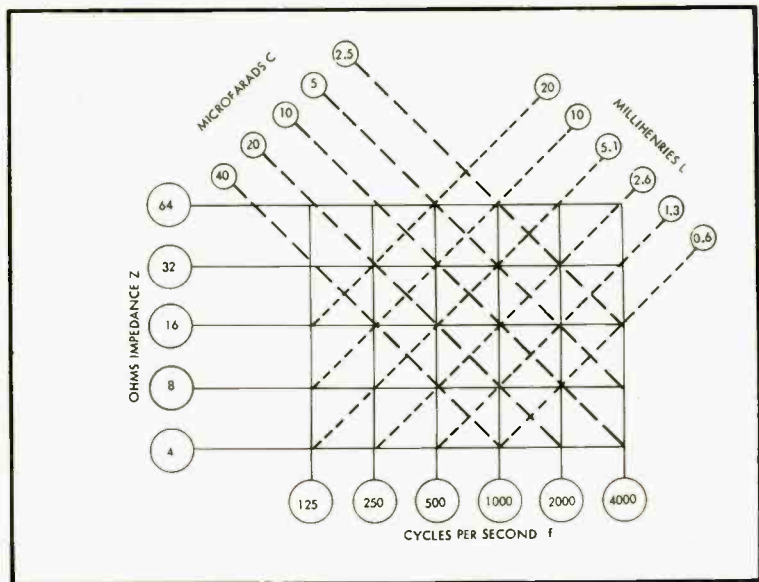

Fig. 1. Chart for determination of L and C for crossover networks when impedance L and frequency of crossover f are known.
Fig. 2 (left). Two-way crossovers with a slope of 6 db per octave. $X_c = X_L = Z_w = Z_T$ at crossover frequency. C_1 and L_1 are found from Fig. 1. Fig. 3 (right). Two-way crossovers with a slope of 12 db per octave. Find C and L from Fig. 1. $C_2 = 1.41 C$; $L_2 = 0.71 L$; $C_3 = 0.71 C$; $L_3 = 1.41 L$.
and C in farads. Aside from the fact that we are interested in millihenries, mh, (thousandths of a henry) and microfarads, μf , (millionths of a farad) the factor 2π is unhandy to work with. Hence these equations are put in more convenient form in Fig. 1. The scale on the left is ohms impedance Z ; across the bottom is the frequency of f cps. The capacitor lines C are dashed and slope up to the left. The inductor lines L are dotted and slope up to the right.
pacitor contribute 3 db each. The L_i coils and C_i capacitors are found from Fig. 1 and apply to either of the circuits in Fig. 2. Both the series circuit, (A), and the parallel circuit (B) employ woofer W and tweeter T with the same rated ohms, which also is the ohm tap of the output transformer.
As an illustration, what values are needed for 16 ohms at 500 cps? On Fig. 1 follow 16 ohms from the left until it crosses the 500 cps line straight up from the bottom; then follow up left along the dashed line to find $C_1 = 20 \mu\text{f}$. Return and follow up right along the dotted line to find $L_1 = 5.1 \text{ mh}$.
For the series circuit of (A) both speakers have the same ohms, but the coils and capacitors have 0.71 times the reactance values shown in Fig. 1. These values are still readily obtained from Fig. 1 by simply multiplying the coil L by 0.71, and the capacitor value C by 1.41 [remember the capacitor ohms are less for increased capacitance, Eq. (2)]. Take, for instance, a crossover frequency of 500 cps, and two 16-ohm speakers. The coil values from Fig. 1 are 5.1 mh
and we want $L_2 = 5.1 \times 0.71 = 3.6 \text{ mh}$. The capacitor values are $20 \mu\text{f}$ from Fig. 1, and the values we want are $C_2 = 20 \times 1.41 = 28.2 \mu\text{f}$.
For the parallel 12-db circuit of (B) in Fig. 3, we need to exchange the factors for L and C as compared with the accompanying series circuit. It really is simple; use Fig. 1 to get L and C for the required speaker ohms and crossover frequency, then $C_3 = 0.71 C$, and $L_3 = 1.41 L$. For a crossover frequency of 500 cps, and two 16-ohm speakers (B): $C_3 = 0.71 \times 20 = 14.2 \mu\text{f}$, and $L_3 = 1.41 \times 5.1 = 7.2 \text{ mh}$.
cut in. The L_4 for the woofer has a reactance of 16 ohms at 500 cps, and Fig. 1 shows 5.1 mh. For the tweeter, C_5 has 16-ohms at 4000 cps and Fig. 1 shows 2.5 μ f. For the mid-range, where C_4 has half the reactance shown by Fig. 1, at 500 cps for the 16-ohm *M* we want 8 ohms for C_4 , or 40 μ f. The coil L_5 at 500 cps has half the value of 16 ohms, and at 8 ohms on Fig. 1 we find 2.6 mh for L_5 .